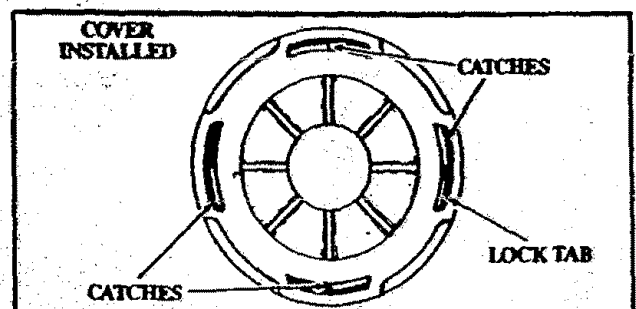

Figure 23
- Check to make sure all four Catches and the Lock Tab are properly fastened as shown in Figure 23, then test the Cover by trying to turn it counterclockwise.